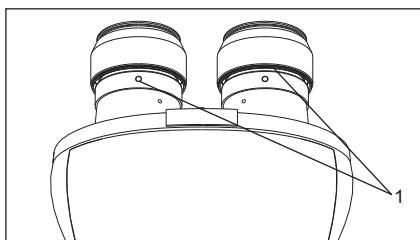

Fig. 10
2. Insert 10x eyepieces into the ocular sleeve and tighten the clamping screw (1) using allen wrench 1.2mm. See figure 10.